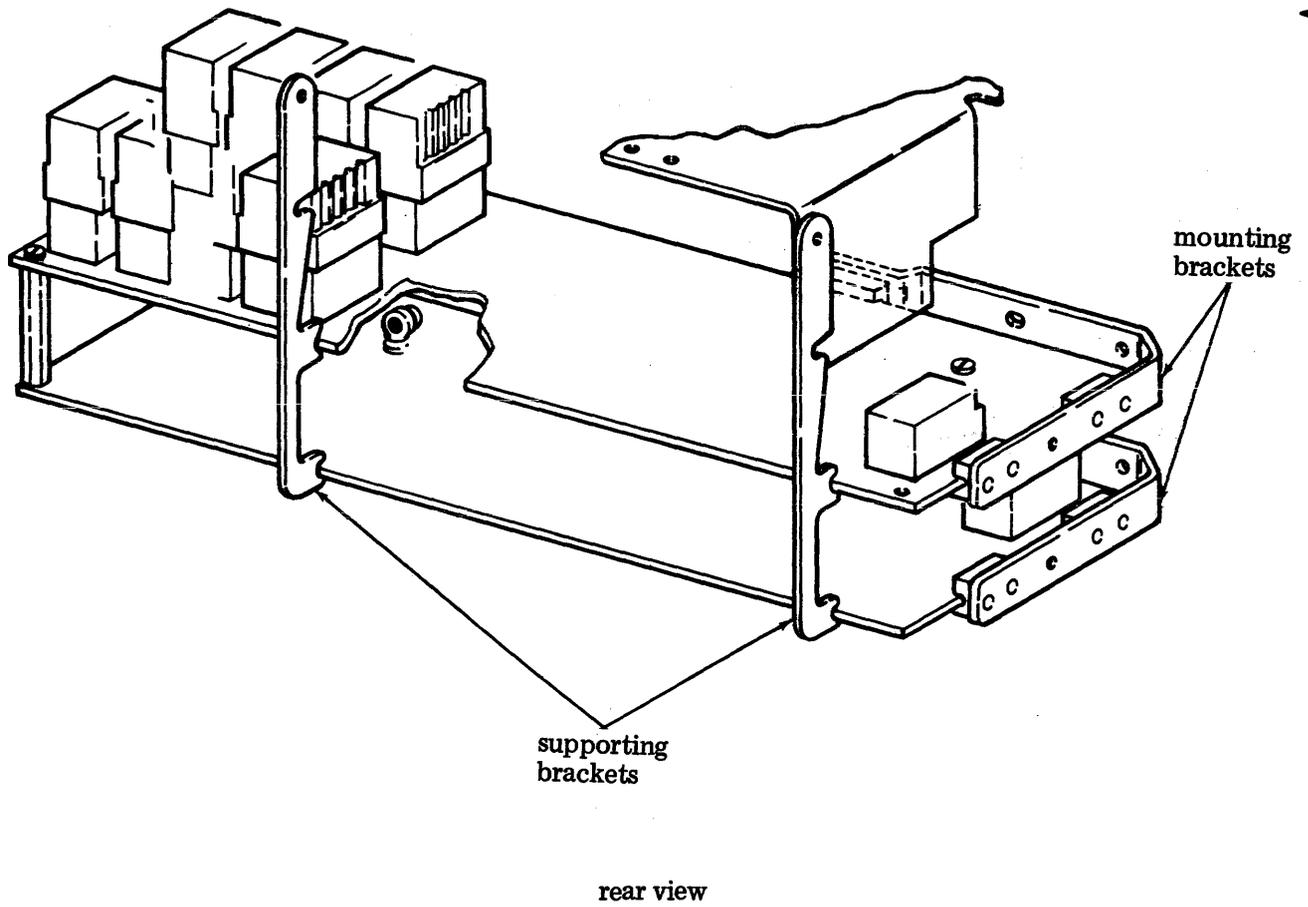

Figure 2 - Circuit Card Supporting Brackets
- (b) Loosen lower screws of supporting brackets (Figure 2). Swing brackets rearward.